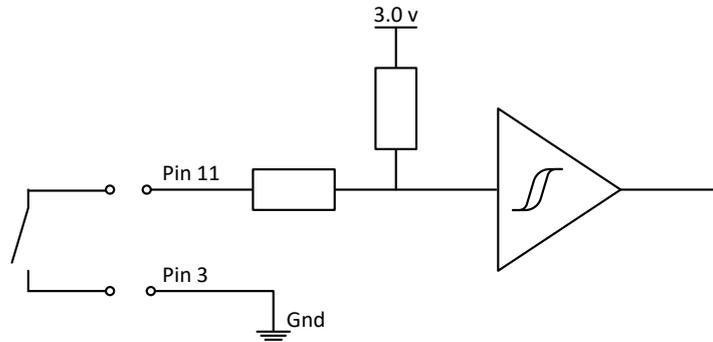

Figure 6: Example DI connection circuit
The Point Colour can be configured to read up to 5x digital inputs (DI). Each of these inputs is defined as volt-free. i.e. no wetting voltage is required for the change in state to be detected. The DI's will also accept a 0-2V signal as a digital input. This makes the DI's suitable for connecting to a wide range of sensors, including switches. Figure 6 shows a wiring example.